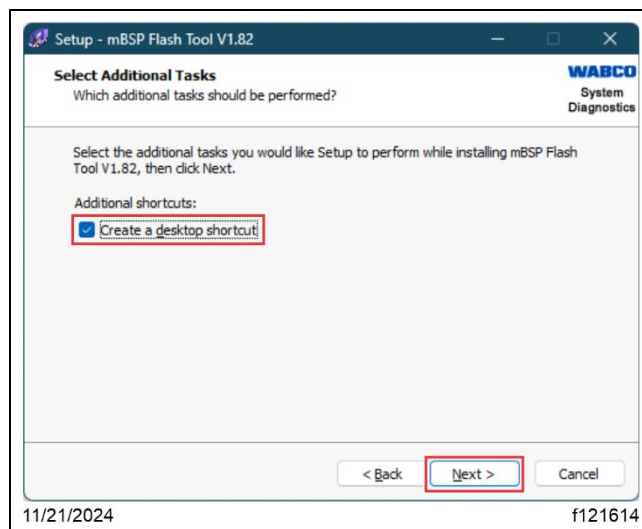

Fig. 38, Creating a Desktop Shortcut
7.10. On the 'Select Additional Tasks' screen, select the checkbox next to 'Create a desktop shortcut,' then select 'Next.' See Fig. 38.